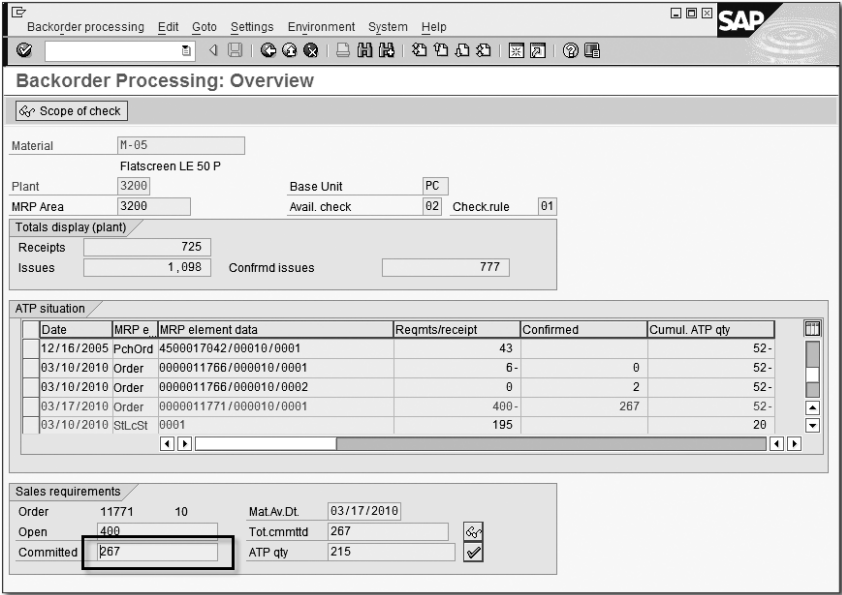

Figure 3.29 Backorder Processing Committed Quantity Change
- 11. When you're satisfied with the updated committed quantities (Figure 3.29), press **[Enter]**, and you'll be returned to the BACKORDER OVERVIEW screen.